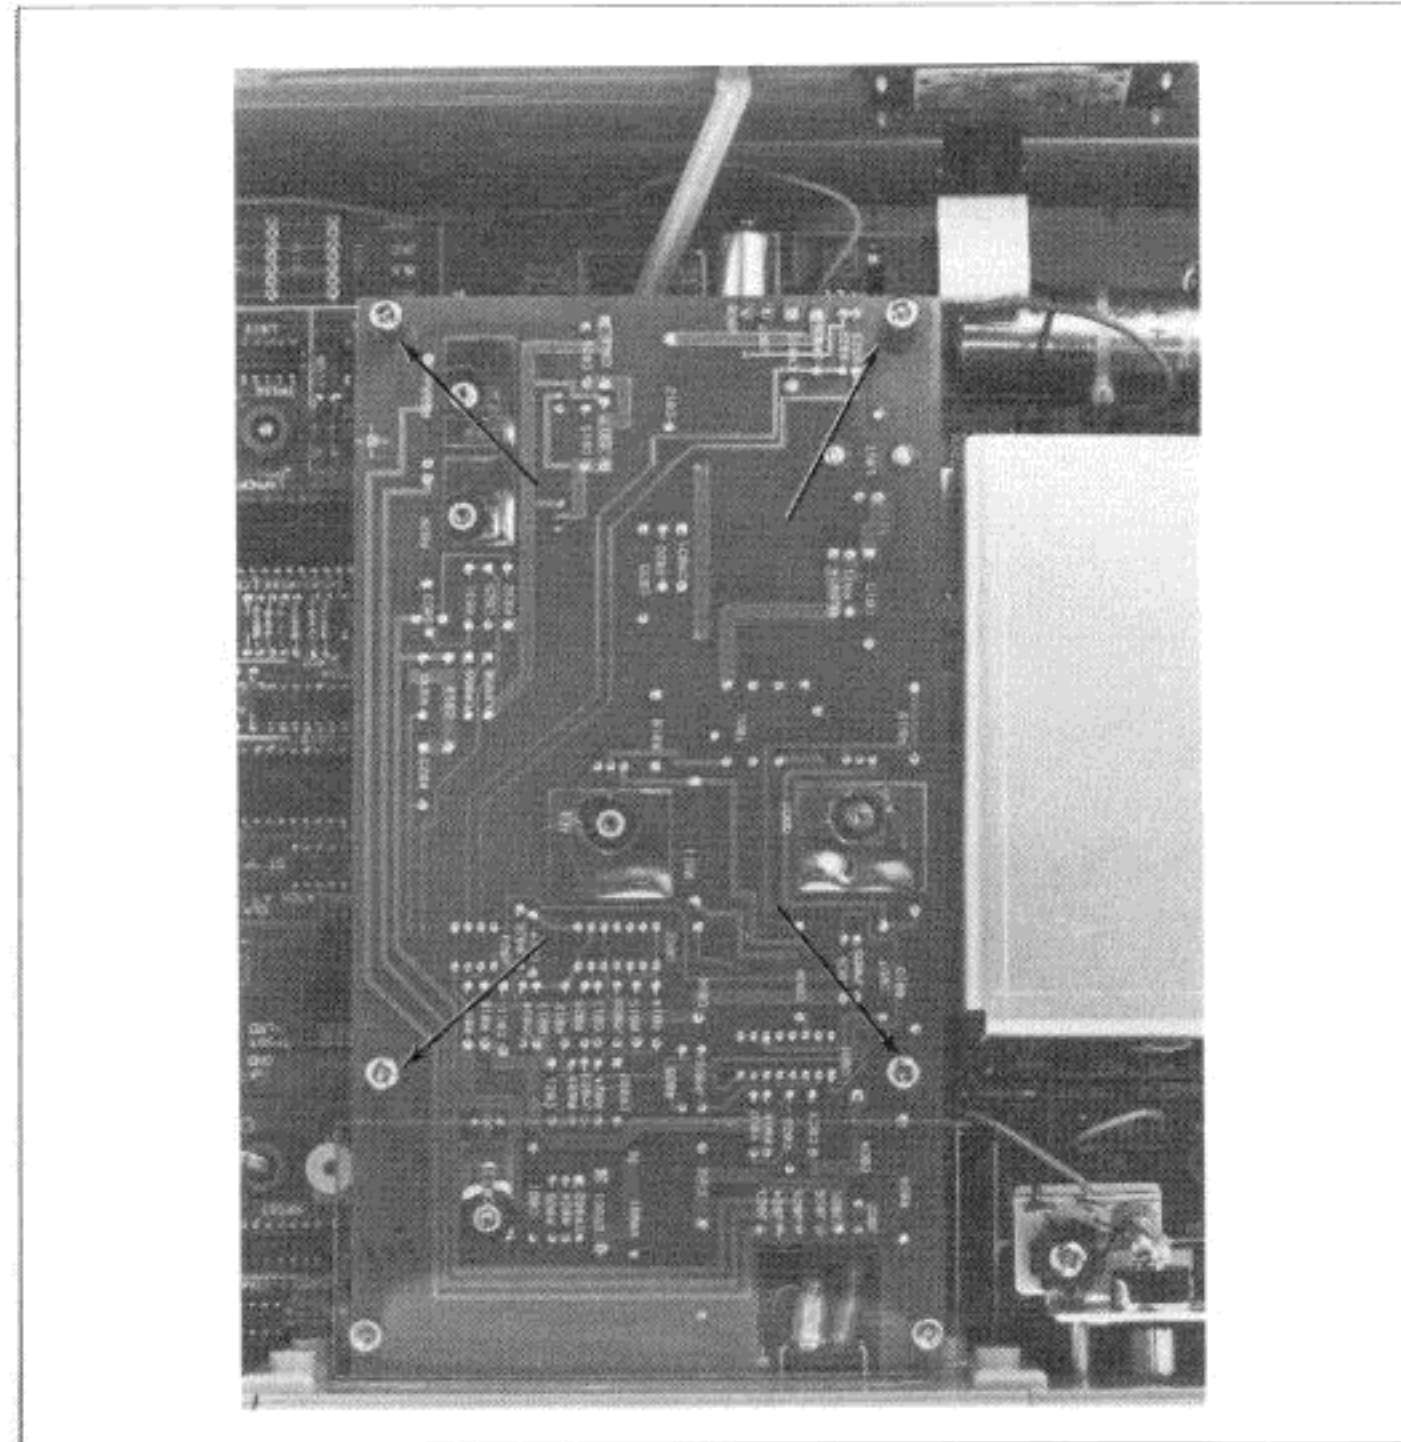

Figure 5-8-3. Securing the 12 Vdc Power Adapter Option
- i. Replace the four screws that hold the 12 Vdc Power Adapter Option in place, as shown in Figure 5-8-3. This is recommended to avoid shorting any components. It does not, however, establish the ground reference for the pc board. Ground Reference is established by wire connections.